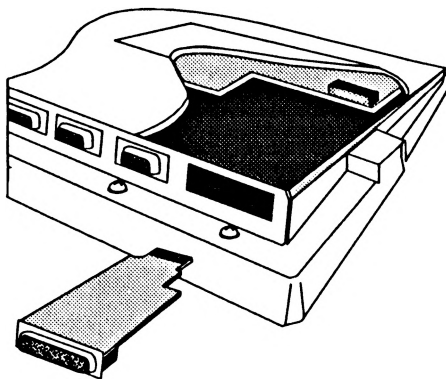

Figure 2.2 – Insert A1291 SCSI board.
- 3) Insert the A1291 SCSI board—component side down—into the expansion port opening in the Amiga's rear panel (see Figure 2.2).